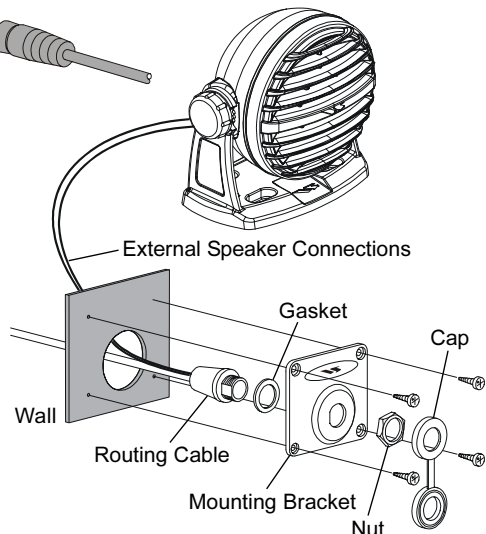

Figure 3
2. Referring to Figure 3, make a 30 mm hole in the wall, then insert the Routing Cable into this hole. Connect the Gasket and Mount Base to the Routing Cable Connector using the Nut.